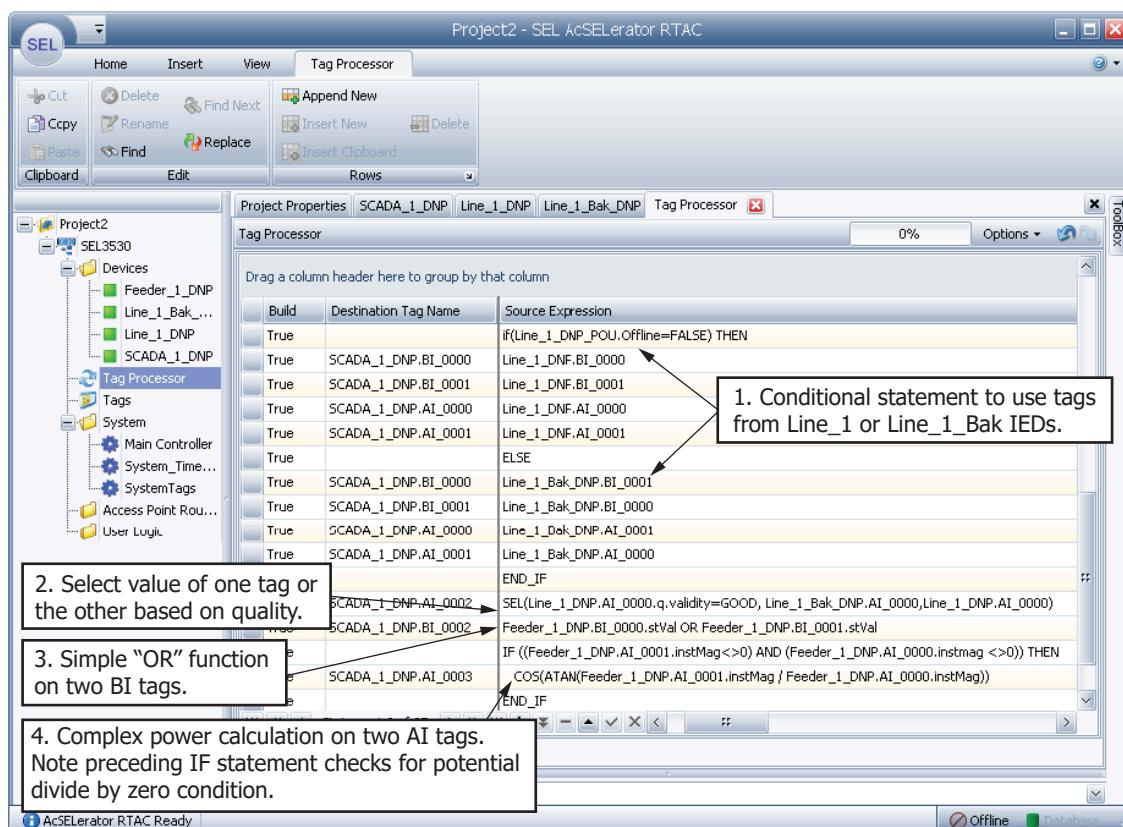

Figure 3.8 IEC 61131-3 Logic in Tag Processor
- Step 8. Type in or copy/paste the tags from Feeder_1, Line_1, and Line_1_Bak to the Tag Processor, as shown in *Figure 3.8*.
- Step 9. Type in or copy/paste the tags from SCADA_1 to the Tag Processor, as shown in *Figure 3.8*.
The following describes the specific syntax of the embedded IEC 61131-3 structured text in *Figure 3.8*: